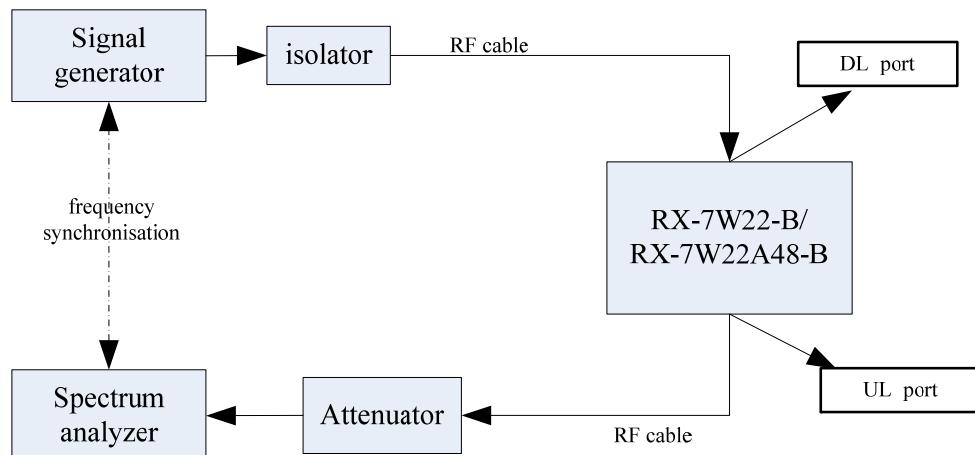
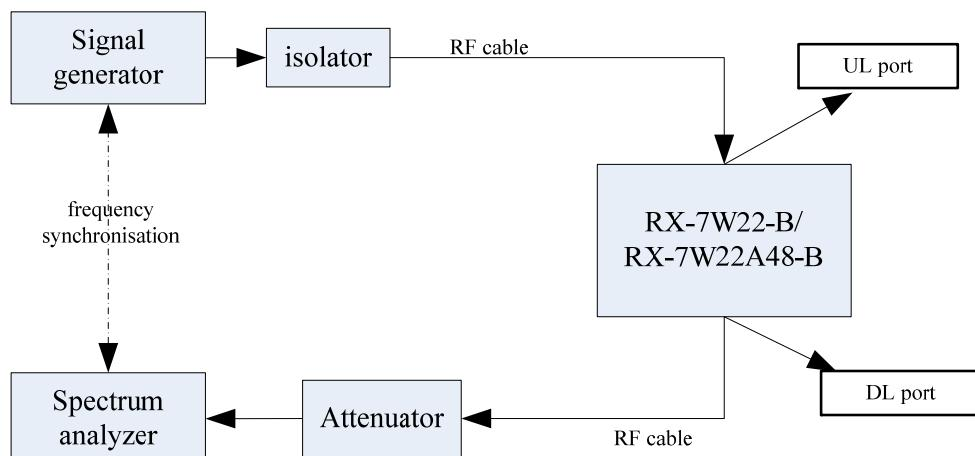

Figure 3: Occupied bandwidth arrangement for Downlink
Figure 4: Occupied bandwidth arrangement for Uplink
- (1) Connect the device as illustrated Figure 3 and Figure 4, when the output power is over the maximum value of the Spectrum Analyzer, add the attenuator to avoid destroying.
- (2) Configure the signal generator to transmit the appropriate test signal associated with the public safety emission designation.
- (3) Configure the signal level to be just below the ALC threshold and maximum gain.
- (4) Connect a spectrum analyzer to the output of the EUT using appropriate attenuation as necessary.
- (5) Set the spectrum analyzer center frequency to the nominal EUT channel center frequency. The span range for the spectrum analyzer shall be between 2 times to 5 times the OBW.
- (6) The nominal RBW shall be 100 Hz for 12.5kHz channel and 300 Hz for 25kHz channel and 100kHz for LTE.
- (7) Set the reference level of the spectrum analyzer to accommodate the maximum input amplitude level.
- (8) Set spectrum analyzer detection mode to peak, and trace mode to max hold.
- (9) Allow the trace to fully stabilize.
- (10) Confirm that the signal is contained within the appropriate emissions mask.
- (11) Use the marker function to determine the maximum emission level and record the associated frequency as f0.